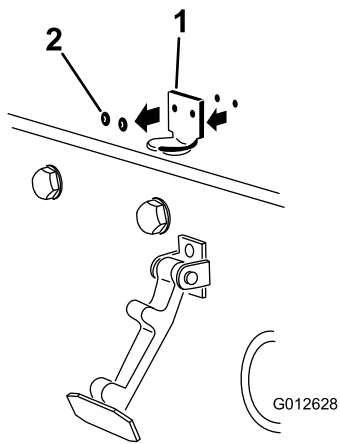

Figure 17
2. Remove the rivets (2) securing the hood-latch bracket to the hood (Figure 17). Remove the hood-latch bracket from the hood.